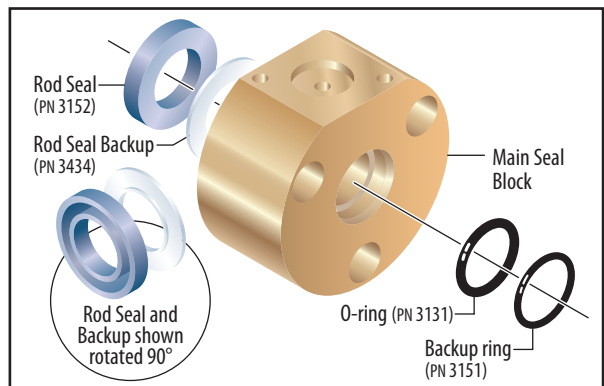

Figure 10
- 13** From the front of the Main Seal Block, remove the o-ring (PN 3131) and the back-up ring (PN 3151) (**figure 10**).
- 14** From the rear of the Main Seal Block, remove the Rod Seal (PN 3152) and Rod Seal Backup (PN 3434) (**figure 10**).
When the Rod Seal is installed, its flat surface should face toward the Main Seal Block, while its grooved surface faces out to mate with the Manifold Block (**figure 10**).